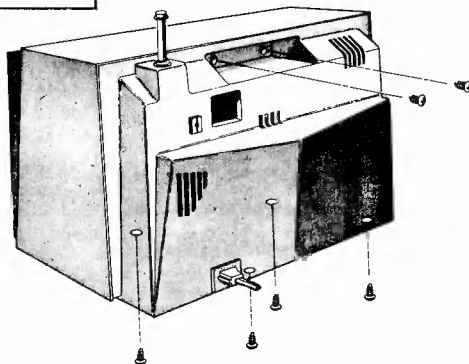

FIGURE 1
Refer to Figure 1:
3. Remove Phillips screws as indicated in Figure 1.
1. Remove the cabinet back (as indicated in Figure 1).
1. Remove the cabinet back as indicated in Figure 1.